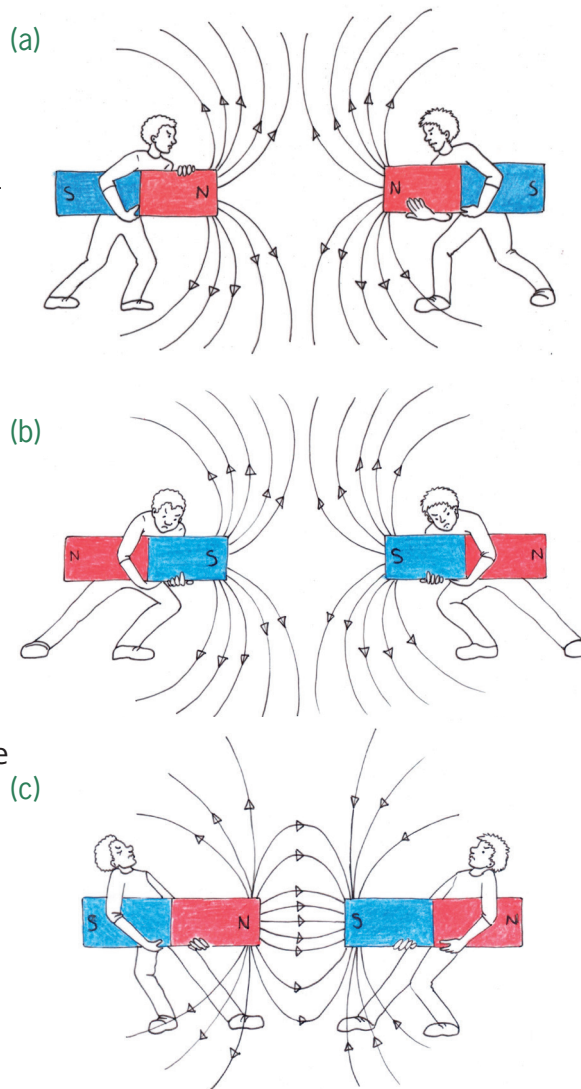

Figure 7
1. Hold a bar magnet in one hand and put another bar magnet on your desk. Bring the north pole of the magnet in your hand close to the north pole of the magnet on the desk. Write down what happens when you bring the north poles of the two bar magnets closer together (Figure 7 (a)).
2. Now bring the south pole of one of the bar magnets close to the south pole of the other bar magnet. Write down what happens when you bring the south poles of the two bar magnets closer together (Figure 7 (b)).
3. Now bring the north pole of one bar magnet close to the south pole of the other bar magnet. Write down what happens when you bring the north pole close to the south pole (Figure 7 (c)).